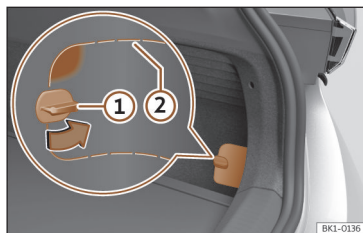

Fig. 56 On the lower right-hand side of the luggage compartment trim: cover with cutting lines.
- Turn the cover lock through 90° >>> **Fig. 56** ①.
- Press the surface over the lock inwards >>> **Fig. 56** (marked zone).
- Insert your hand through the opening and pull the cover off. If necessary, apply a suitable object along the cutting lines >>> **Fig. 56** ②.